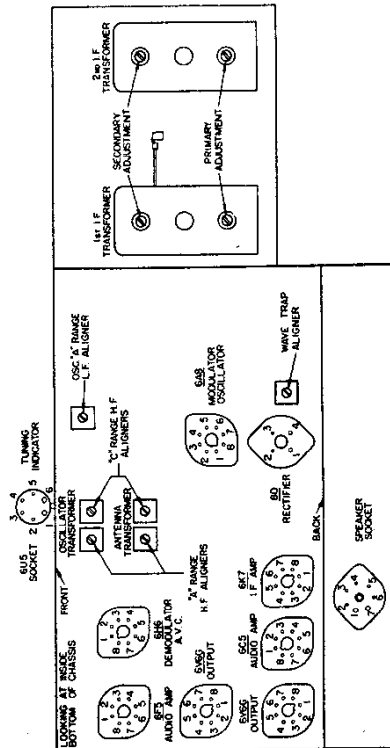

Fig. 1. Terminal Layout for Voltage Measurement Chart and Location of the Aligning Capacitors.
The values of voltages listed in the table are to be measured by means of a voltmeter measuring between the various tube socket operation when the measurements are made. Figure 1, shows the terminal layout of the sockets with the proper terminal numbers.
In making any alignment adjustments, always adjust the test oscillator's output voltage to the minimum value. Before proceeding with the alignment of any circuits in these receivers, the alignment of the Tone's control knob is set for maximum treble response (position where knob is rotated from its maximum counter-clockwise position, slightly clockwise to position where set turns "on"), and that the slotted shaft of the electric tuning set-up switch, located on the rear of the chassis base, points in the direction of the word "Set-Up". When the test oscillator is set at the intermediate frequency, the test oscillator's output terminal should be rotated so that the slot points in the direction of the word, "Operate". Figure 1, shows the location of all the aligning capacitors in these receivers.
3. Now, noting from Figure 1, the aligning capacitors for the first and second I. F. transformers, align the I. F. circuits in the following manner: